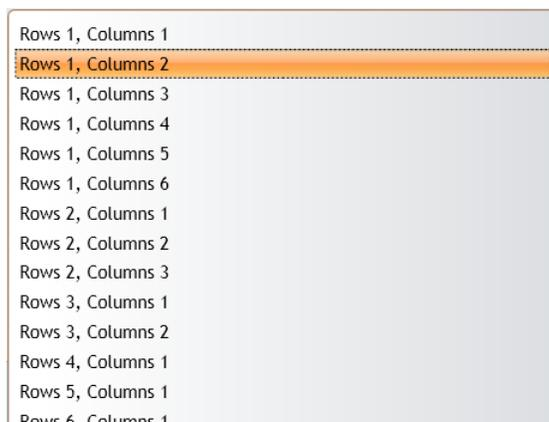

Figure 24 – Chart Layout Options
- A variety of different row/column configurations are available (Figure 24).